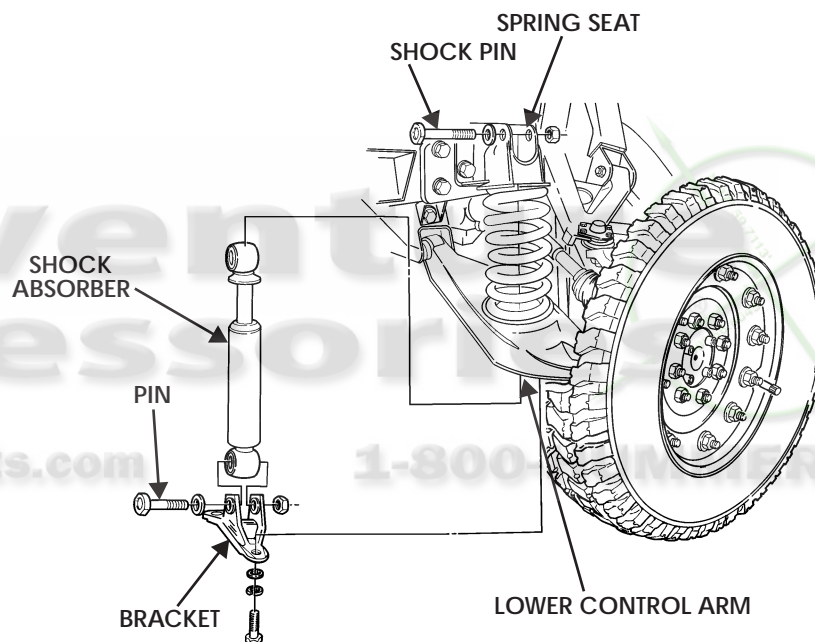

Figure 9-12: Shock Absorber
1. Remove two capscrews, lockwashers, washers, shock absorber, and bracket from lower control arm. Discard lockwashers (Figure 9-12).
1. Position shock absorber in vise, and install bracket on shock absorber with washer, pin, and locknut. Tighten locknut to 300 lb-ft (407 N•m) (Figure 9-12).